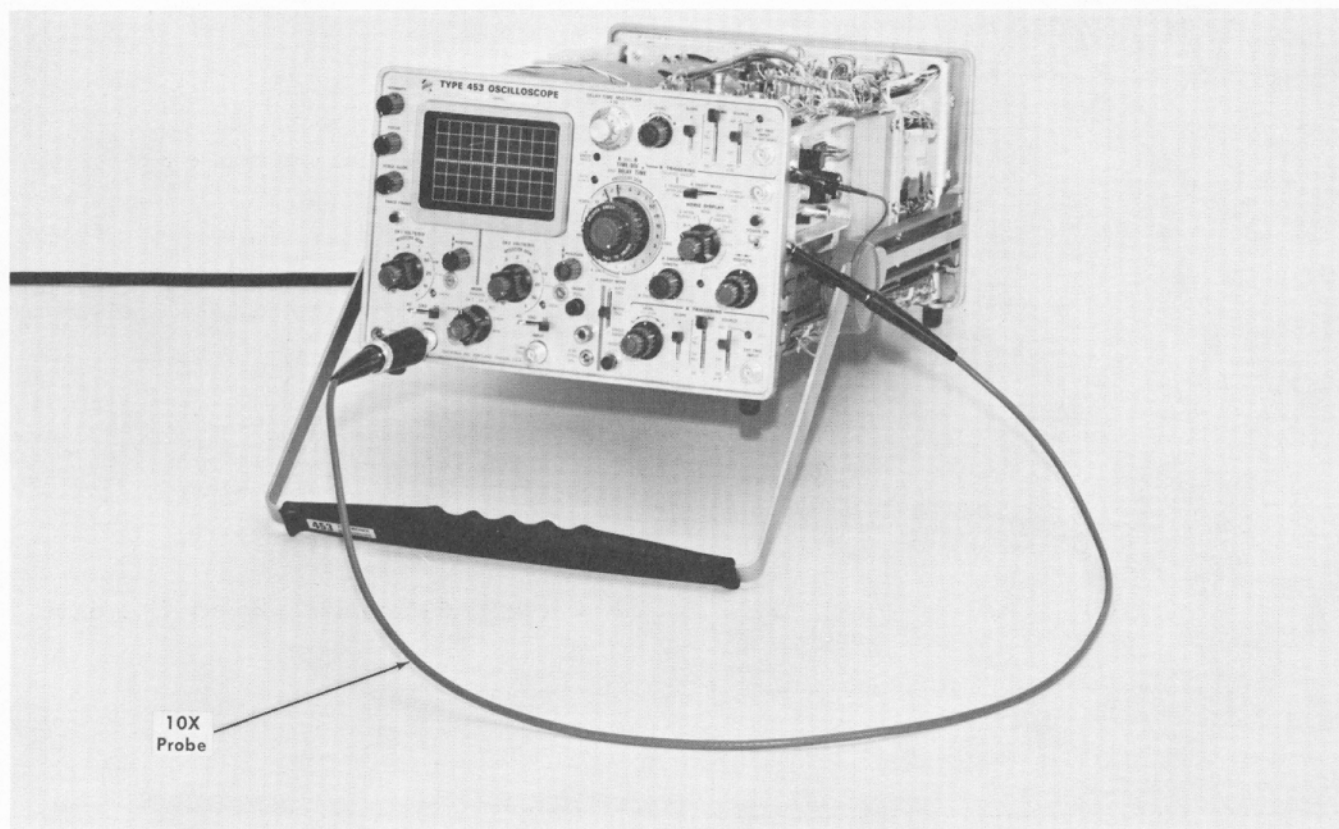

Fig. 6-39. Test equipment setup for step 34.
- Test equipment setup is shown in Fig. 6-39.